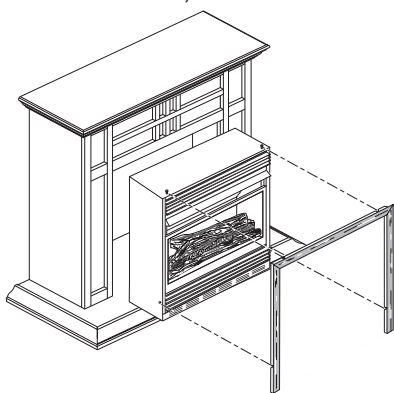

Figure 13 - Installing Fireplace into Mantel Assembly
5. Center cabinet mantel on hearth base (see Figure 13, page 13). Make sure mantel is flush against wall and centered left to right on base.
10. Carefully insert fireplace into cabinet mantel (see Figure 13). Be careful not to scratch or damage hearth base or cabinet mantel.